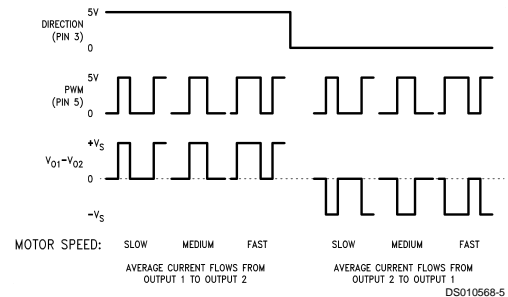

FIGURE 3. Sign/Magnitude PWM Control
**Sign/magnitude PWM** consists of separate direction (sign) and amplitude (magnitude) signals (see *Figure 3*). The (absolute) magnitude signal is duty-cycle modulated, and the absence of a pulse signal (a continuous logic low level) represents zero drive. Current delivered to the load is proportional to pulse width. For the LMD18200, the DIRECTION input (pin 3) is driven by the sign signal and the PWM input (pin 5) is driven by the magnitude signal.